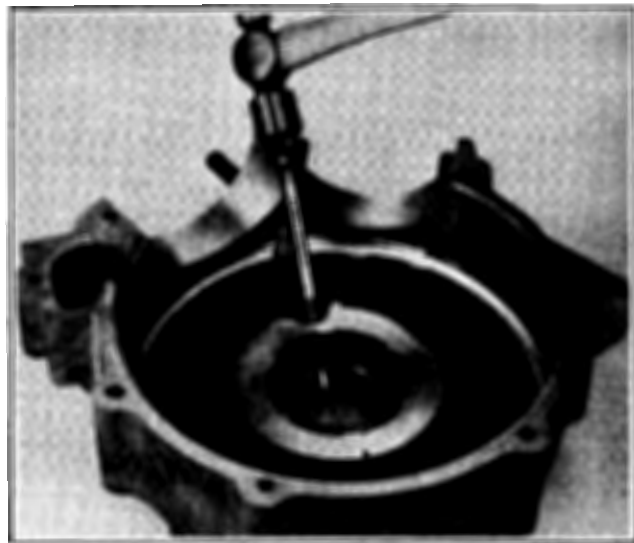

Figure 3-37. Removing Lock Ring
hammer. If bearing set is being replaced, remove lock ring-spacer (12) using a 1/8 in. pin punch or similar tool with a tapered point. Rotate lock ring in groove so that one edge is near oil hole. Insert tool into oil hole with tapered end underneath lock ring. Tap on tool to force one end out of groove as shown in Figure 3-37. Starting at this free end, push ring out of bearing bore.